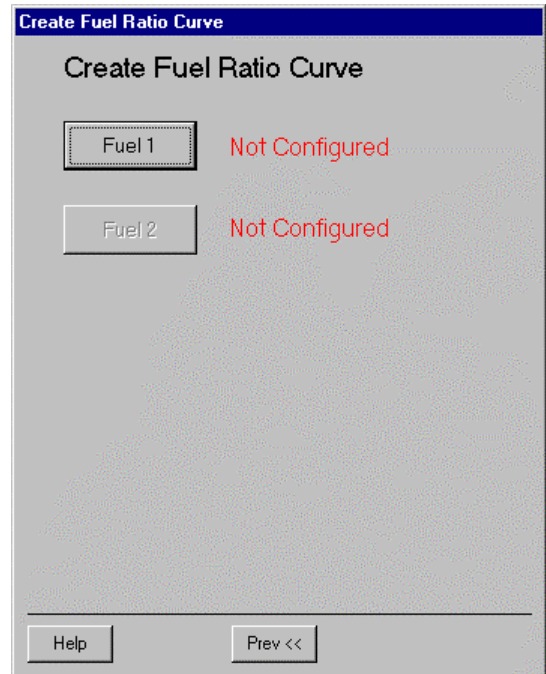

Fig. 17. Create Fuel Ratio Curve.
- Identify whether fuel/air ratio curves are configured. You can perform the following actions from these screens (see Fig. 17):